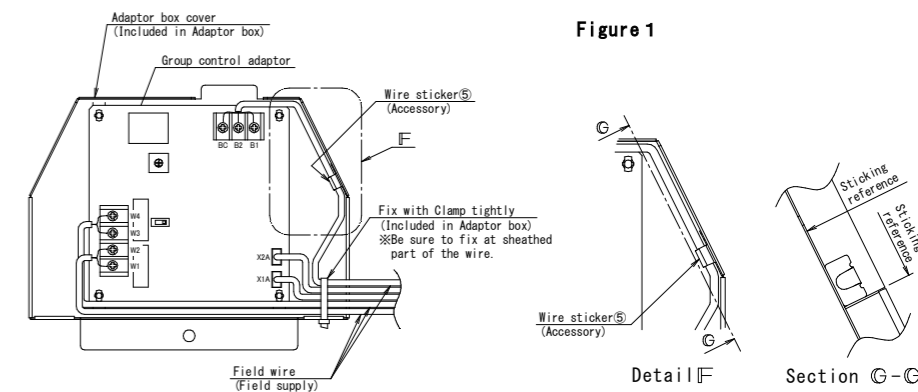

Figure 3
- When installing the Group control adaptor KRP4A in the Adaptor box along with this adaptor, mount it on the cover side as shown in Figure 3.